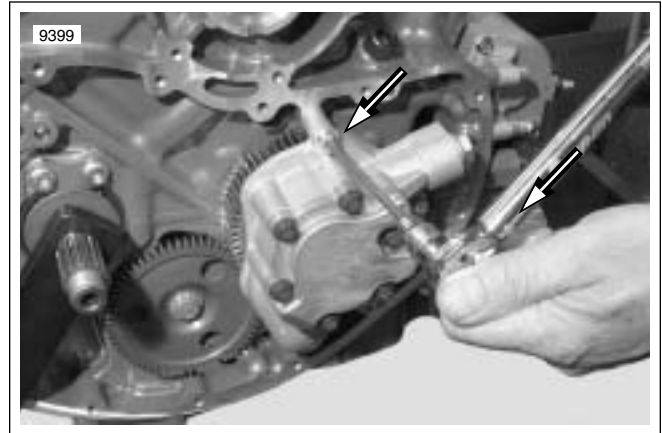

Figure 3-70. Oil Pump Installation @ 9.7 Nm (86 in-lbs)
7. See Figure 3-70. Install pump in engine. Tighten three fasteners to 9.7 Nm (86 in-lbs).